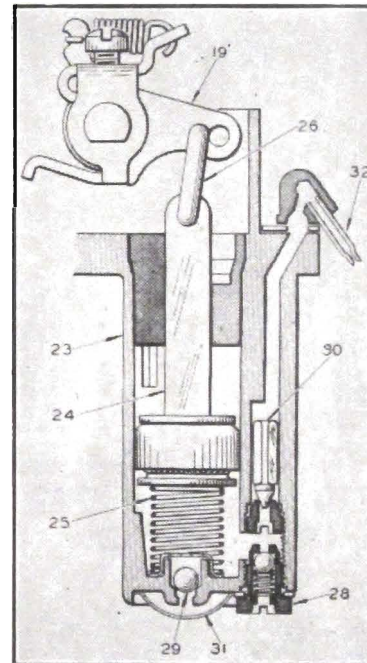

Fig. 6-80. Pump Circuit
The pump circuit consists of the pump cylinder (23), pump plunger and rod assembly (24), pump spring (25), pump arm assembly (19), pump connector link (26), intake valve (29), discharge valve (30), pump strainer screen (31), pump jet (32). See Fig. 6-80.